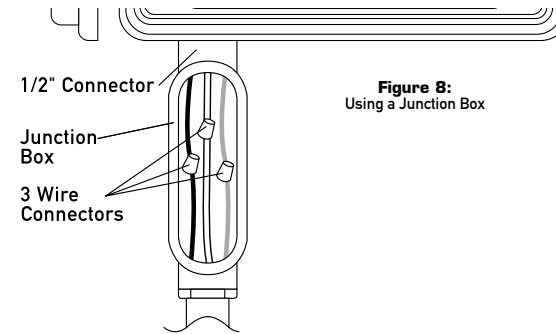

Figure 8:
Outdoor Locations—If a covered Ground Fault Interrupter (GFI) outlet is available, insert the power cord into the 110 volt outlet. If no outlet is available, the controller must have the wiring permanently installed (Figure 8)
- Connect the junction box to the controller using a 1/2" nipple (Junction box and nipple not included). [See Figure 8] Connect the source power conduit to the entrance of the junction box, following all the appropriate codes.